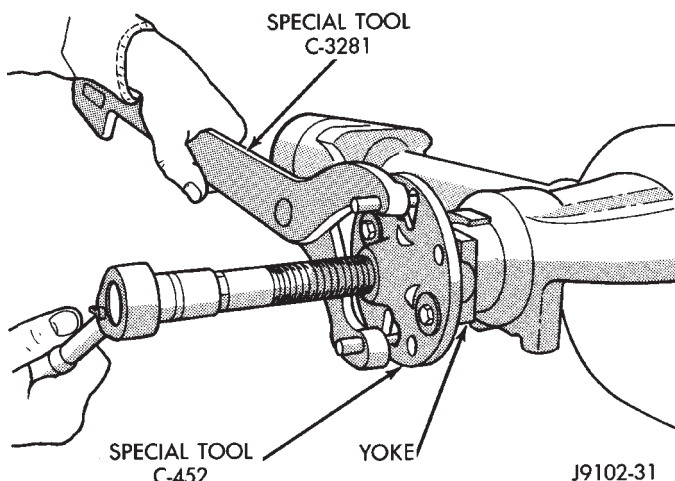

Fig. 25 Pinion Yoke Removal
(1) Remove differential assembly from axle housing.
(2) Remove the pinion yoke nut and washer. Use Remover C-452 and Wrench C-3281 to remove the pinion yoke (Fig. 25).